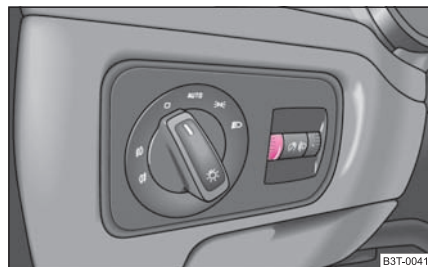

Fig. 44 Dash panel: Instrument lighting
- Turn the control dial ⇒ fig. 44 to the desired intensity of the instrument lighting ⁸⁾.
⁸⁾ For the information display* ⇒ page 19 the intensity of the lighting is automatically set. The setting using the control dial ⇒ fig. 44 is only possible when driving in the dark.